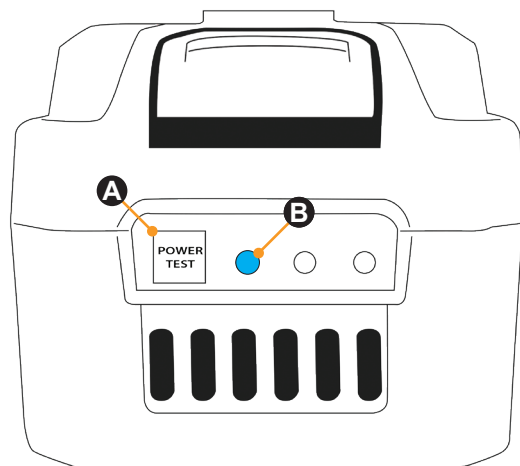

Fig.12
3. The rechargeable battery has a power level indicator located on the top, front of the battery (Fig.12). Press and hold the Power Test button (Fig.12A). The number of lit blue lights (Fig.12B) will indicate the battery's existing power level.